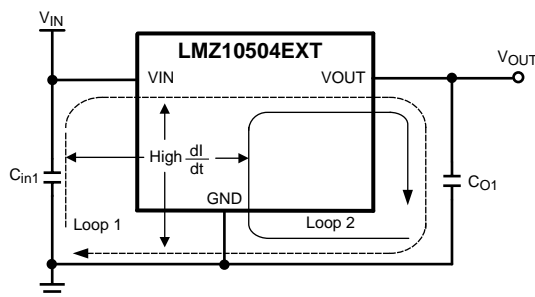

Figure 18. High Current Loops
From an EMI reduction standpoint, it is imperative to minimize the high di/dt current paths. The high current that does not overlap contains high di/dt, see Figure 18. Therefore physically place input capacitor (C_{in1}) as close as possible to the LMZ10504EXT VIN pin and GND exposed pad to avoid observable high frequency noise on the output pin. This will minimize the high di/dt area and reduce radiated EMI. Additionally, grounding for both the input and output capacitor should consist of a localized top side plane that connects to the GND exposed pad (EP).